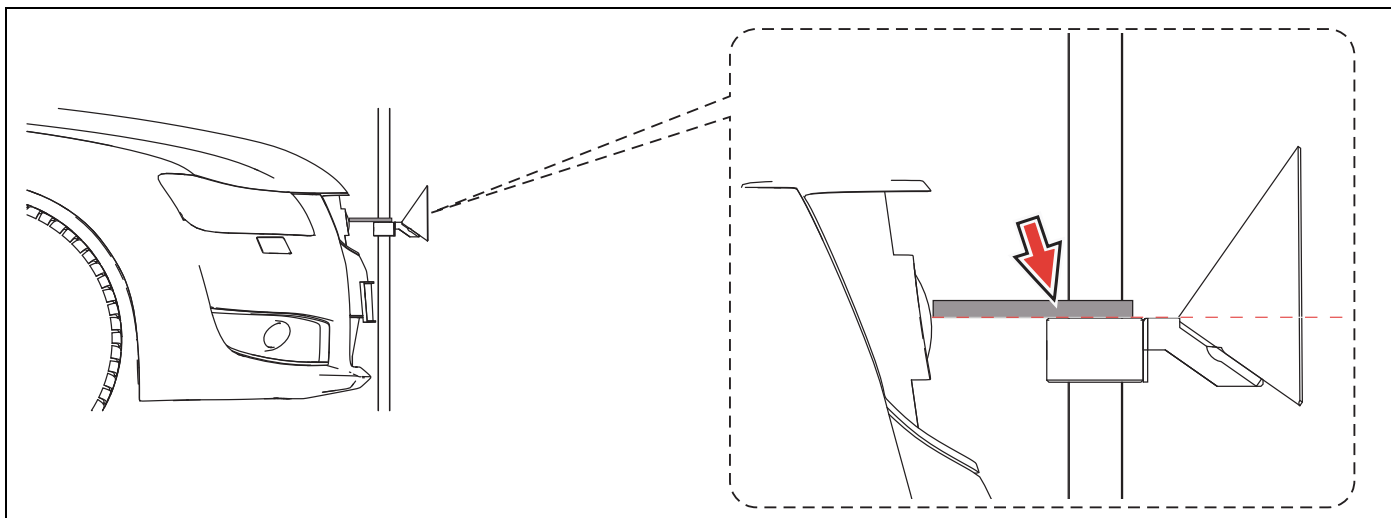

Figure 6-4
4. To set the target height, start by moving the RAD10 radar target stand to a position facing away from the vehicle and directly centered in front of the vehicle as shown in Figure 6-4.
5. Using a straight edge as shown in Figure 6-4, adjust the target height so that the top of the target bracket is in line with the vehicle emblem (centerline). Place the straight edge on top of the target bracket to translate the centerline. Loosen the thumbscrew and move the radar target as needed (up/down), then tighten the thumbscrew.